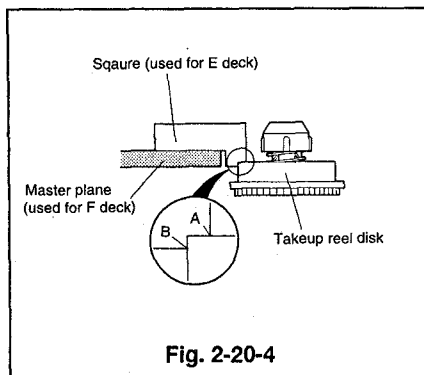

Fig. 2-20-4
- ④ Place the height adjusting jig [square](used for E deck: Part No.859C341070) on the jig installed in Item ③ as shown in Fig. 2-20-4. Make sure that the height is correct (between A and B).
- ⑤ Adjust the height of the supply reel disk by varying the number of the washers (Part No.552C017020) under the disk.
- ⑥ Install the sub brake(TU), the sub off lever, and the sub spring(TU). (Refer to Para. 2-16 for the installation method.)
- ⑦ Install the sub brake(SP) and the sub spring(SP). (Refer to Para. 2-14 for the installation method.)
- ⑧ Install the cassette housing. (Refer to Para. 2-1 for the installation method.)